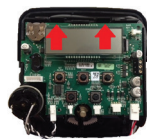

Fig 1
2. To connect the power cable, you need to firstly remove the cover, then remove the drive bracket assembly by pressing up on the drive brackets release tabs and pulling towards you (Fig 1). Feed the cable through the back plate (Fig 2) and connect to PC board (Fig 3). It's important that the bracket is reapplied with a loud snap to ensure the gears meet the drive gear.